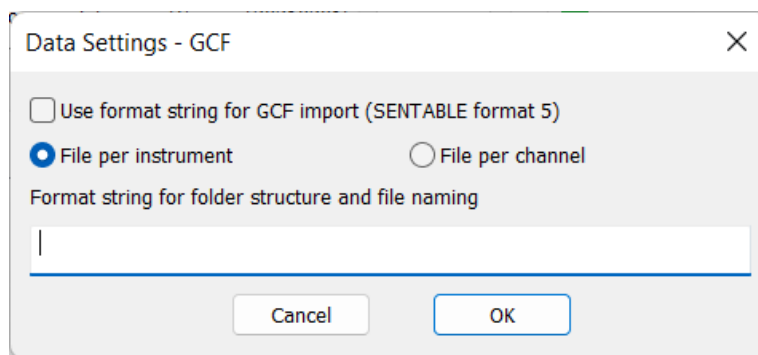

Figure 5-31: GCF import Dialog.
- b. If the type of data is GCF then a Dialog will be launched that allows the user to configure the file and folder structure in which the data is stored (Figure 5-31). The option to use this Dialog information must be checked ('Use format string for GCF import') and the corresponding SENTABLE.txt file set to option 5. The correct radio button for whether a file is written per instrument (multi-channel) or per channel should be selected. The format string should be given following the rules given in Guralp's SCREAM! manual. The format specifier can contain the following characters: